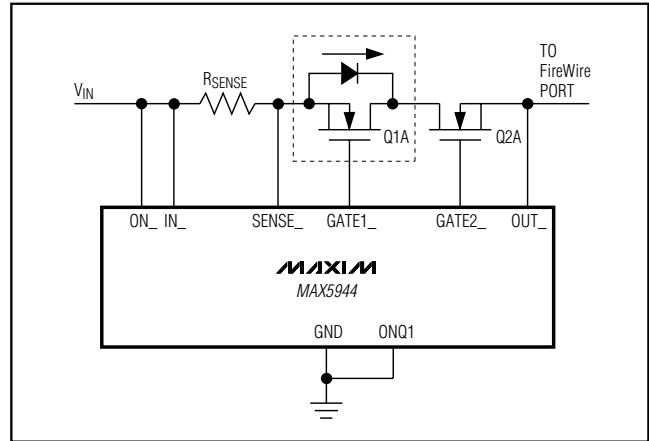

Figure 3. Q1 Current Path During Initial Startup
GATE1\_ controls the MAX5944 ORing function. The MAX5944 accomplishes a very low voltage-drop diode ORing function using n-channel power MOSFETs. Initially, GATE1\_ is off (ONQ1 = low) and the load current conducts through the body diode of Q1\_. Figure 3. GATE1\_ rises to 5.5V above SENSE\_ when VIS exceeds the 5mV VOR threshold, enhancing Q1\_. Q1\_'s low RDS(ON) provides a very low voltage drop across its source to drain, which results in less power dissipation and heat generation in the power-supply path than a traditional diode.